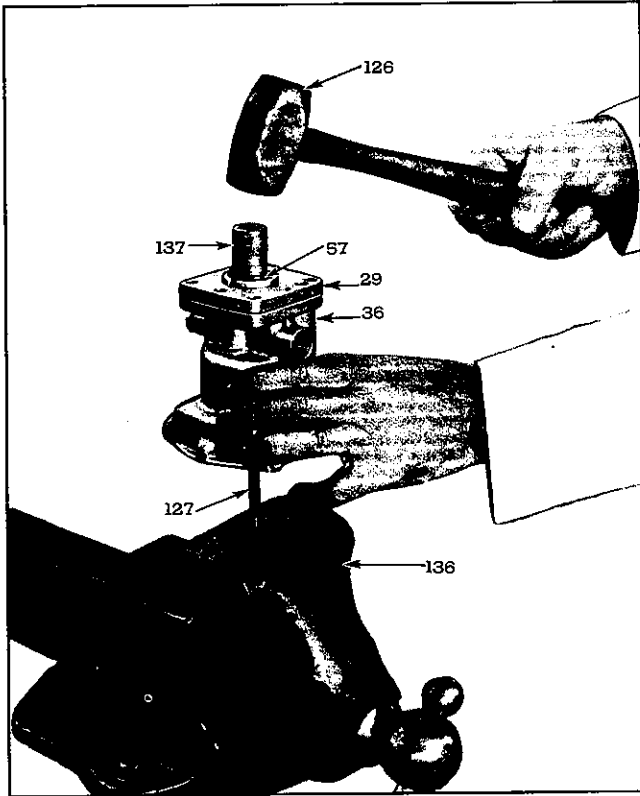

Fig. 43—Replacing Drive Shaft Collar on Drive Shaft of Ballhead.
1. Replace the two oil pump gears (66) and (67) in the governor base (either side up); wipe the adjoining surfaces of base and governor body clean; see that gasket is in place between base and governor case and not damaged; then, holding base and gears face up, set body onto base with dowels in base registering with holes in body. Temporarily, slide ballhead shaft (25) down through body and base, to align the two pieces, then replace the three fillister head screws through base and draw up evenly. Revolve the ballhead shaft during the tightening process to make sure shaft revolves freely.
2. With ballhead assembly (25) down in governor body, support piece of 1/2" rod in bench vise, as shown in Fig. 43. With upper end of shaft resting on rod install collar (57) over end of shaft and